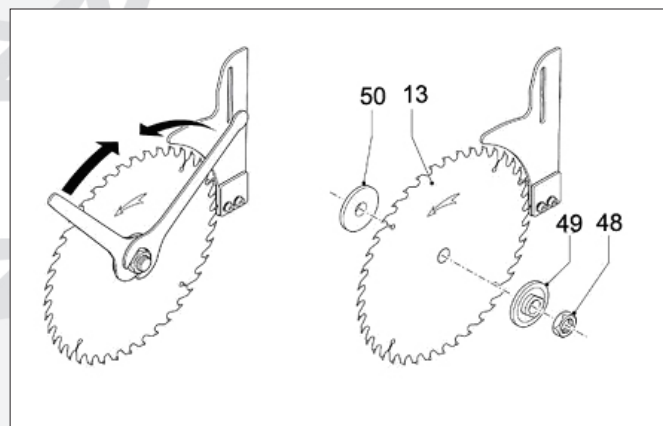

Figure 14
Remove the nut (48) from the blade shaft using a spanner and remove the outer flange (49), blade (13) and inner flange (50) as shown in figure 14.